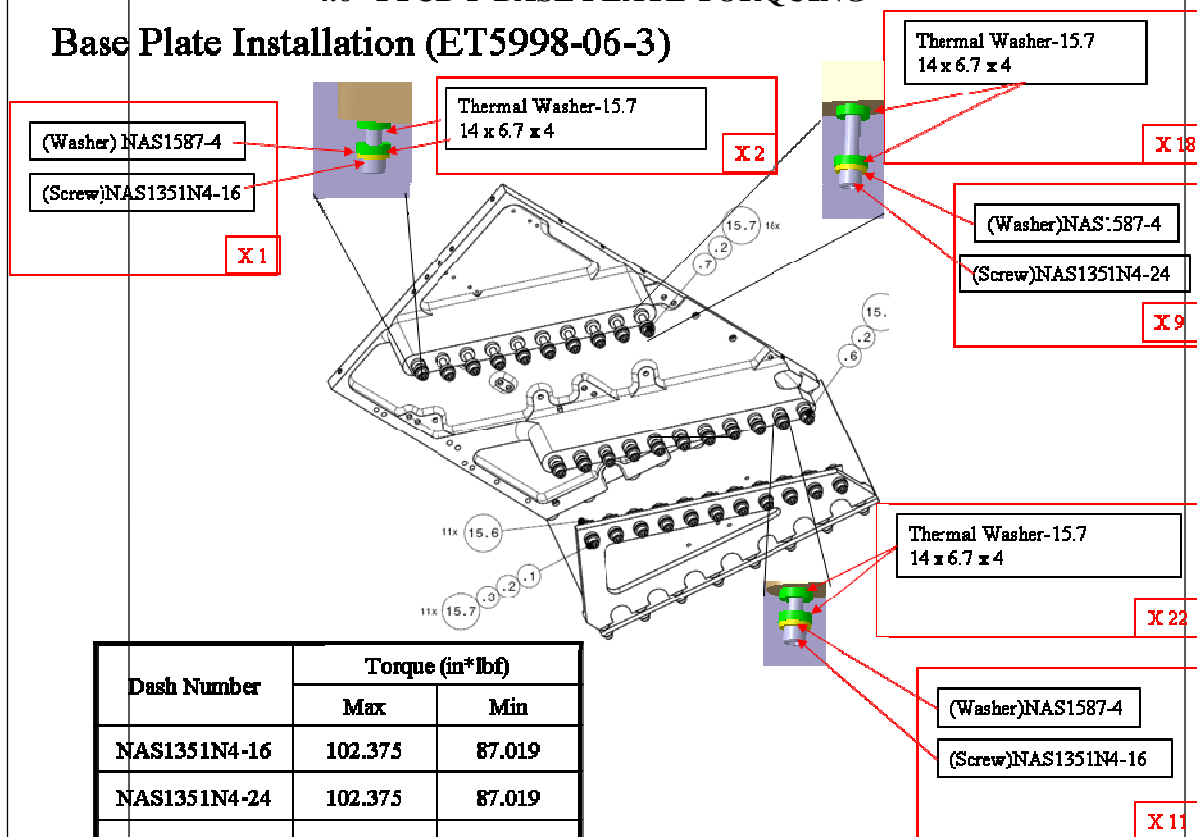

Figure 8: Connection base plate to USS
4.7	Install the fasteners as per figure 8 and record fasteners lot number (write by hand)